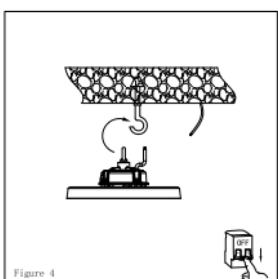

Figure 4
4. Please put the highbay in the hook. (fig.4)